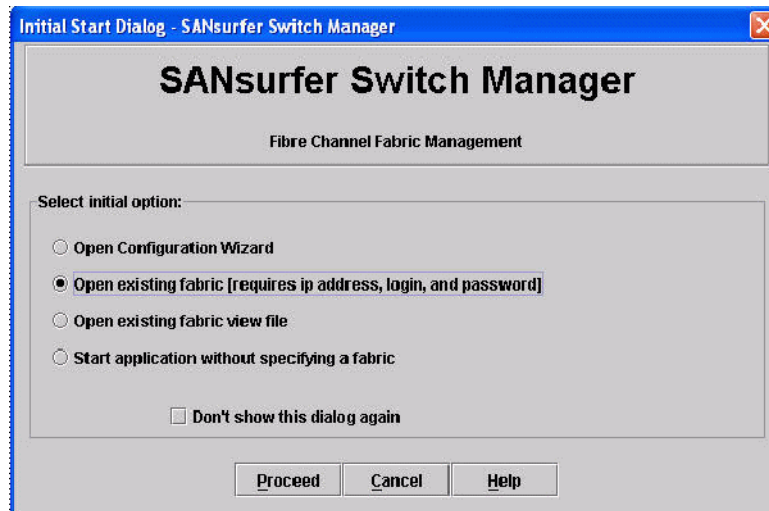

Figure 7-33 SANsurfer Switch Manager initial option window
2. The Initiate Start Dialog dialog box will appear. Click **Open Existing Fabric** and click **Proceed** to continue (see Figure 7-33).